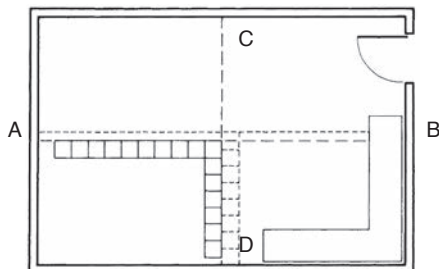

Fig. 7 - Adjust layout at center lines for larger border tiles.
- Measure the distance between the last whole tile and the wall. If the distance is less than half a tile, snap a new chalk line one-half the dimension of a full tile away from the original chalk line (Fig. 7). This will provide a balanced layout with larger cut tile at the border.